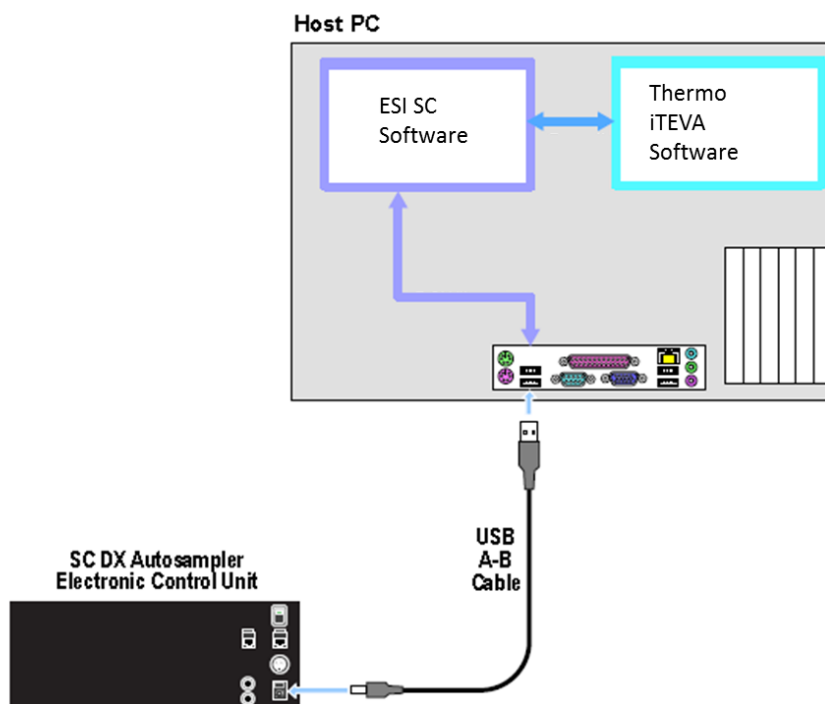

Figure 34: Connection options for iTEVA/TEVA and ESI SC with SC autosampler.
- 3) Connect the USB cable from the computer the SC Autosampler. See Figure 34. Connect 24 VDC power to the SC Autosampler.